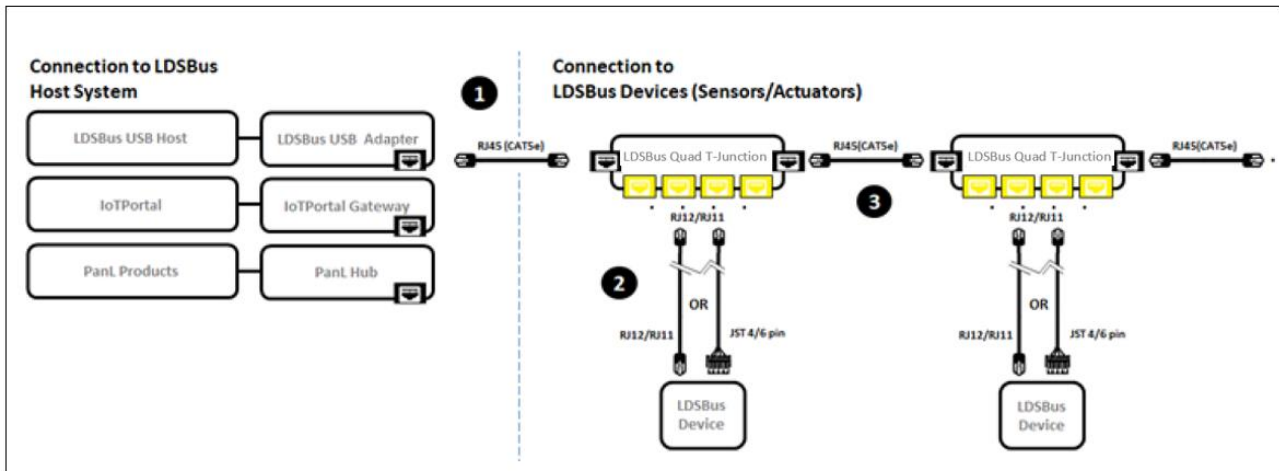

Figure 6 - LDSBus 4in1 Sensor to LDSBus - Connection Diagram
Figure 6 illustrates the connection of the LDSBus 4in1 Sensor (LDSBus Device) to the LDSBus. For more detailed information on device installation, setup, and application, please visit <https://brtsys.com/resources>.
2. Connect the configured LDSBus Multi Sensor to the LDSBus Quad T-Junction as shown in Figure 6.
3. If there is more than one LDSBus Quad T-Junction, chain them together as shown in Figure 6.